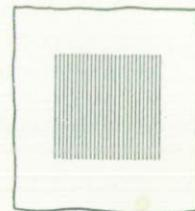

Fig. 52
- Move fabric forward and backward until hole is filled with parallel lines of stitches (Fig. 52),